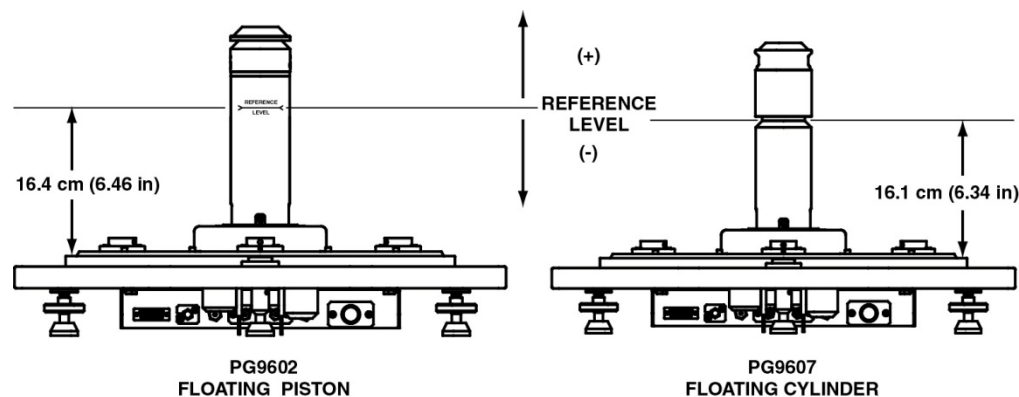

Figure 20. PG9000 Platform Reference Level Location
The natural reference level of a piston-cylinder is defined as the height at which changes in fluid density have no effect on the defined pressure. For a solid floating piston the natural reference level is located at the bottom of the piston. For hollow pistons (i.e. model PC-7100/7600-10) the geometry is irregular and the natural reference level is located above the bottom of the piston. In order to create a convenient, single location for reference level determination the PG9000 defines the reference level as the location of solid pistons at mid stroke. The calculated *reference level offset* (a variable that is associated with the piston-cylinder metrological data file) of hollow pistons normalizes the different natural reference levels to the same height, for convenience – the position of a solid piston at mid stroke or reference level (see Figure 20). In this way the DUT height does not need to be determined for each piston-cylinder that is used.
The pressure defined by a PG9000 floating piston is the pressure at the PG9000 *reference level*. The reference level is shown in Figure 20 for PG9000 platforms. Frequently, when performing a calibration or test, the device under test is at a different height than the PG9000 reference level. This difference in height (referred to as DUT head) has the potential to cause a significant difference between the pressure defined by the PG9000 at its reference level and the pressure actually applied to the device under test located at a different height. In this case, it is useful to make a head correction to the pressure defined by the PG9000 at its reference level in order to accurately predict the pressure applied at a different height. The HEAD function allows this head correction to be applied automatically for a variety of fluids based on operator entry of the height difference. The fluid used and the HEAD function units of measure are set by pressing [SPECIAL] and selecting <3head> (see Section 3.12.3).
- The DUT head height should be entered as a positive value if the device or system under test is above the PG9000 reference level and negative if it is below (see Figure 20).
- The reference level is indicated by a marking on the mounting post or may be determined as a distance of 16.4 mm from the lip of the platform baseplate (see Figure 20).